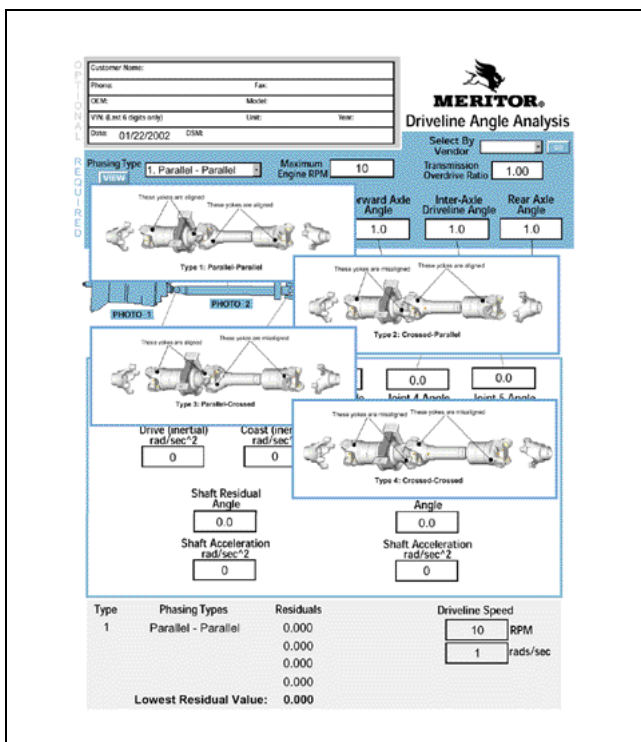

Figure 13.24
4. Enter the driveline phasing type. Click on the **VIEW** button next to the **Phasing Type** field to view examples of the four phasing types. Figure 13.24. Passing the cursor over the example windows will close them.